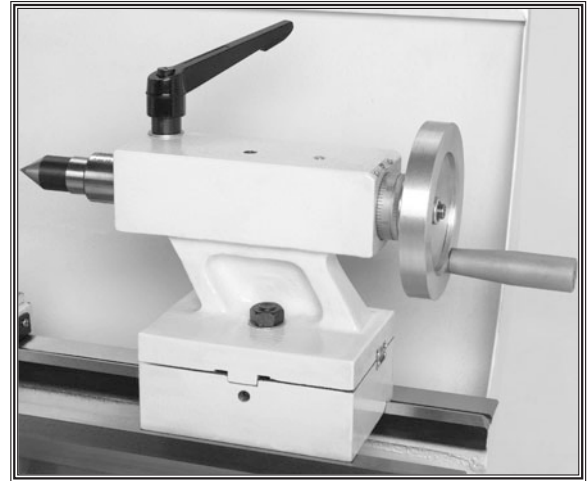

Figure 21. Inserted dead center.
1. Feed the quill out about 1" and insert the dead center (**Figure 21**). The mating tapers provide the locking fit.